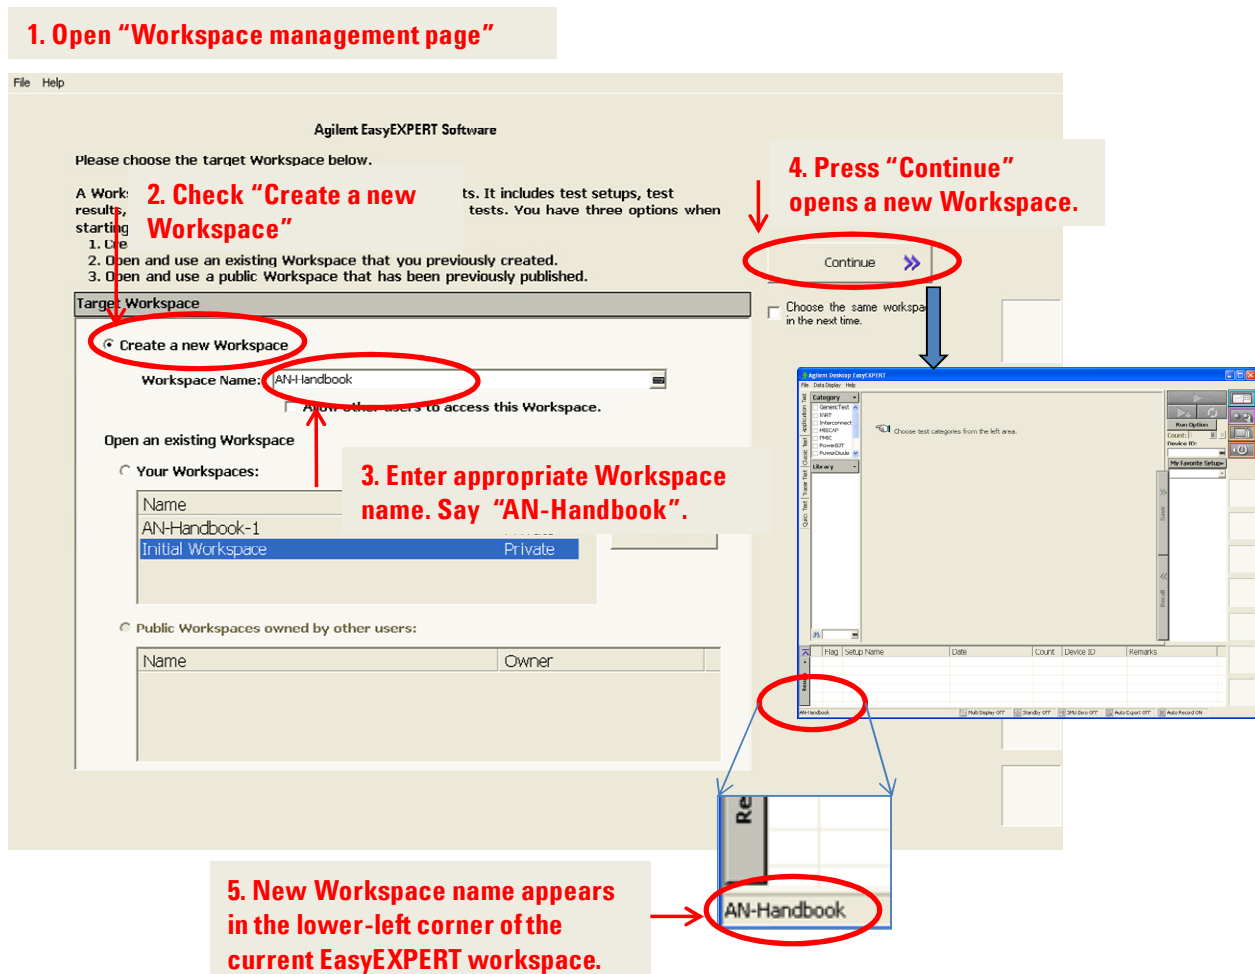

figure 2-14. Creating a new workspace
Step 1. Open the Workspace management window as shown in the figure 2-14.